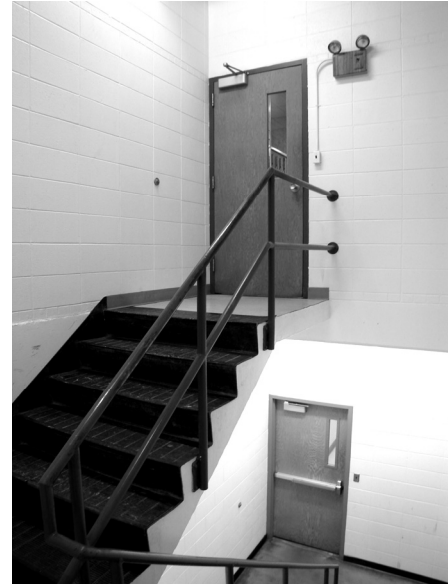

**FIGURE 4-3.16** West utility stair shaft
33. Using *Copy* (not Copy to clipboard) and *Mirror*, copy the east stair into the west stair shaft (see **Figure 4-3.16**).